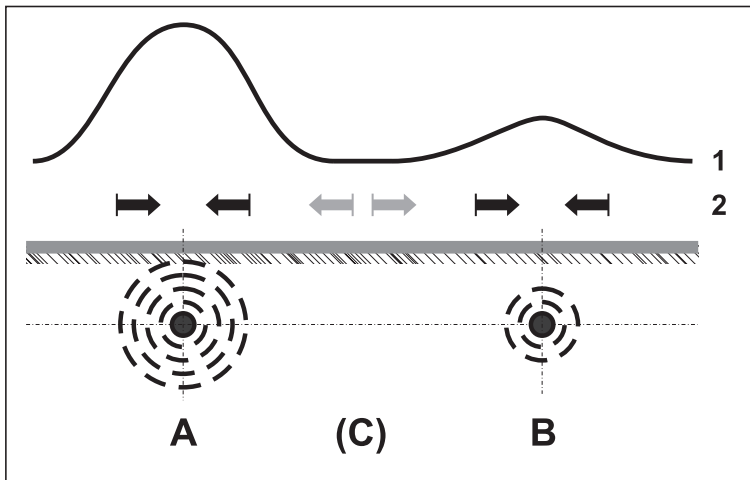

Fig. 28: Locating situation for adjacent lines
Fig. 28 shows a locating situation where another line (B) is positioned closely next to the line being located (A). Line A is